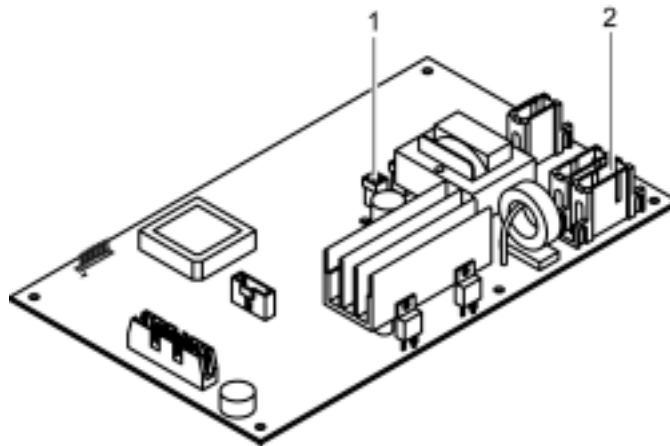

Figure 35: Door Assembly Cable Connections
15. Reconnect the door assembly cables to the main pcb. See Figure 35.